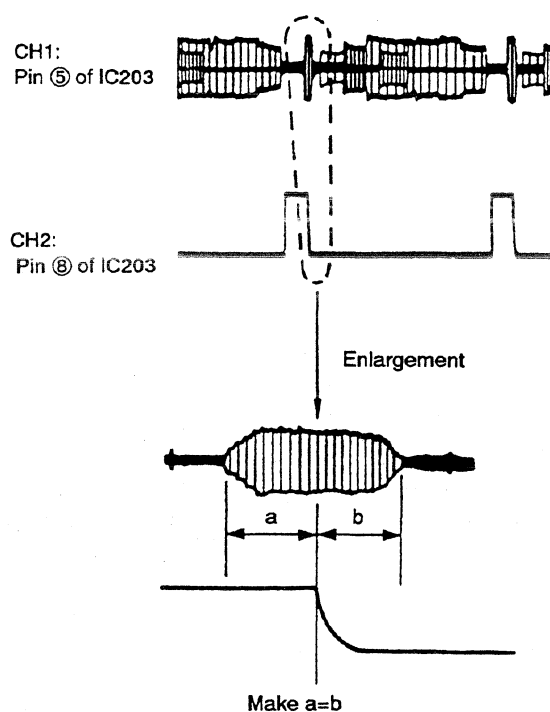

Fig. 9-13. IR2 adjustment
Specified Value	a=b (see Fig. 9-13)
- 1) Line up the falling edge (┘) of the CH2 burst pulse with the center of the CH1 burst signal using RV203. (See Fig. 9-13.)